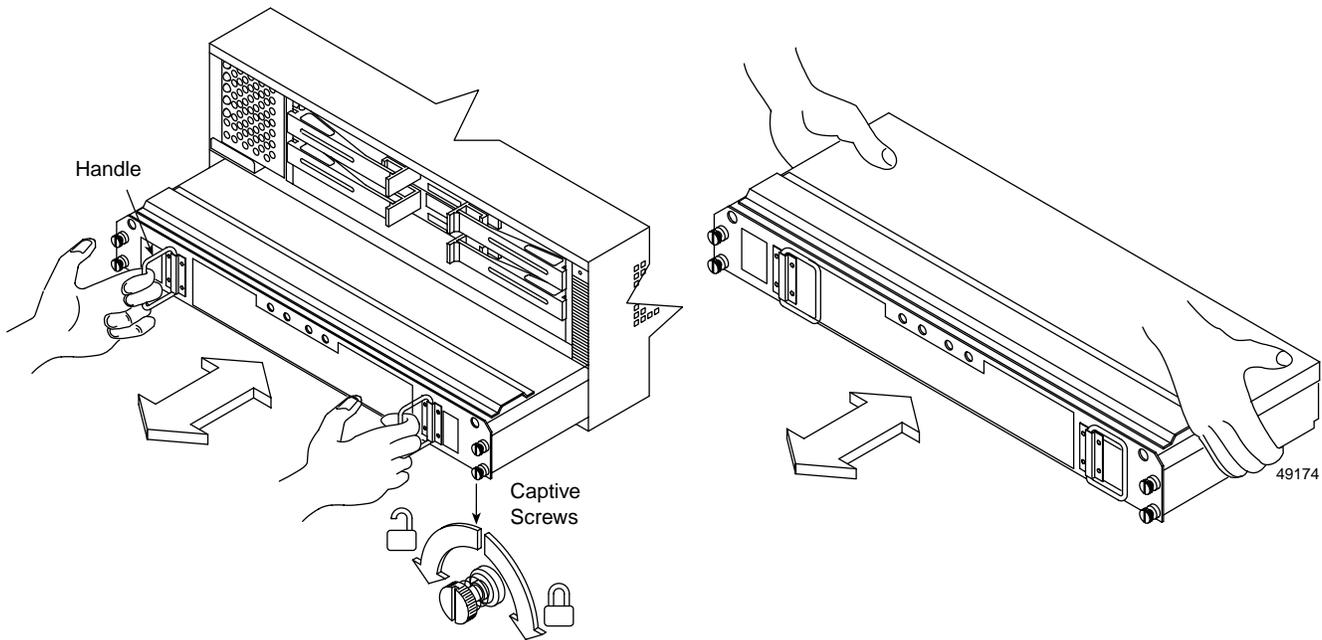

Figure 4-4 Removing and Installing a Battery Canister
4. Remove the battery canister (Figure 4-4 on page 48).